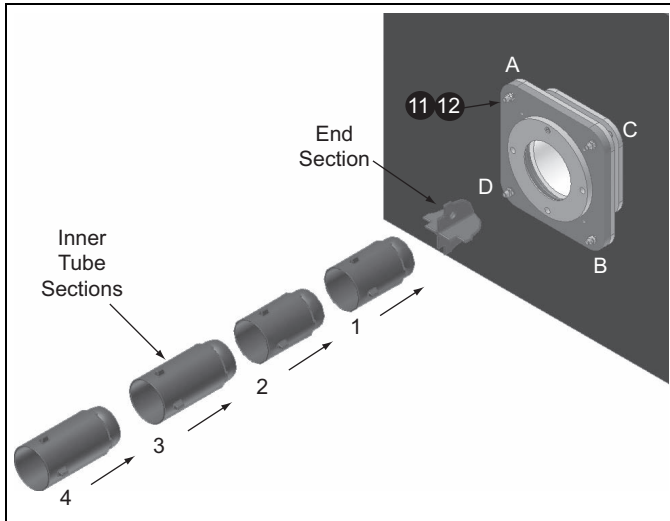

Figure 3.13
- Secure the Support Flange to the Mounting Extension using M12 nuts and washers (see Figure 3.13) (Items 11 and 12) as follows:
- Using a hand wrench snug all bolts on the following order - A,B,C,D (see Figure 3.13)
- Install inner ceramic sections. Refer to Table 3.1 for the appropriate quantities of short (185 mm) and long (235 mm) inner tube sections. Starting with the end section, add the inner tube sections one into the other and push them to the end of the outer tube. Make sure the inner tube sections are bottomed in the outer tube. If they are not fully inserted, the burner will not operate properly and may become damaged. See Figure 3.13.